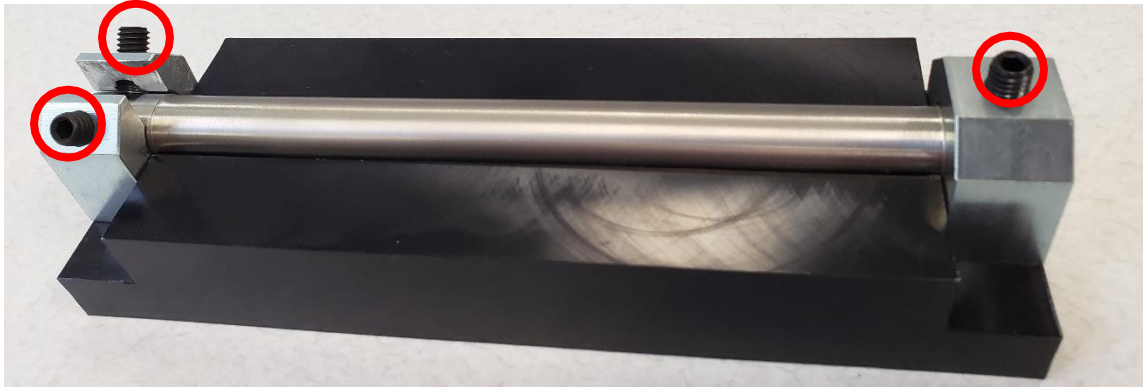

FIGURE 3-6 INSTALL AND TIGHTEN THE SET SCREWS
- 3 Install the set screws into the mounting blocks and tighten (Figure 3-6).